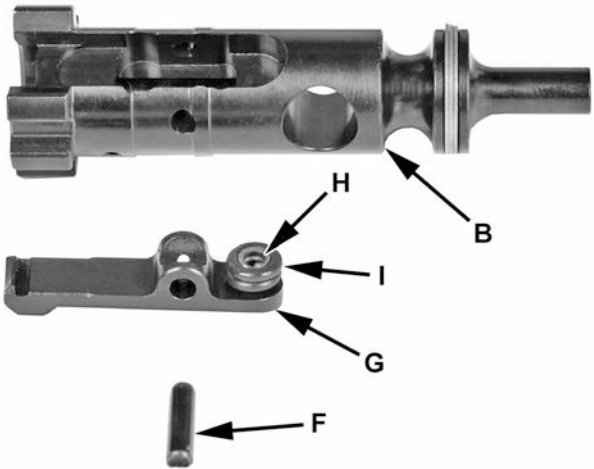

Figure 35
8. Remove extractor pin (F) and extractor (G) from bolt (B). Do not remove insert (I) from extractor spring (H). See figure 35.